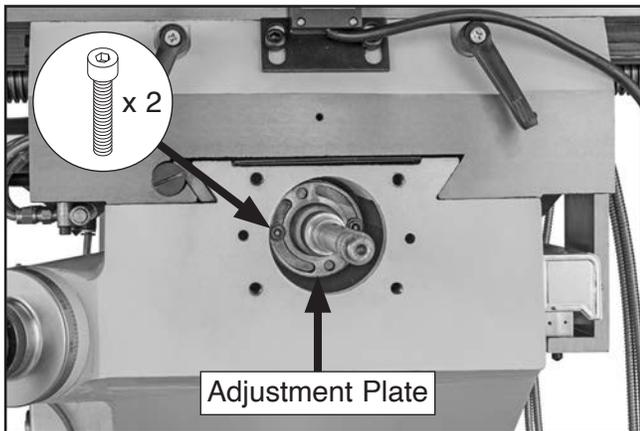

Figure 57. Y-axis leadscrew adjustment plate and cap screws.
- Loosen (2) cap screws on face of adjustment shown in **Figure 57**.